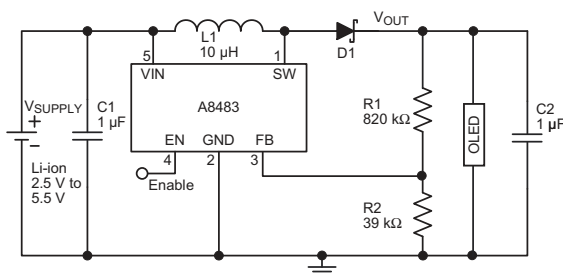

Figure 7. OLED Bias Supply. Use for cell phones, MP3 players, DSCs, and PDAs. (Circuit also shown in figure 1.)
A typical OLED bias supply is shown in figure 7. For driving OLEDs, output voltage is sensed by the FB pin through a voltage divider network. Output voltage, V_{OUT} (V), is set according to the following equation: